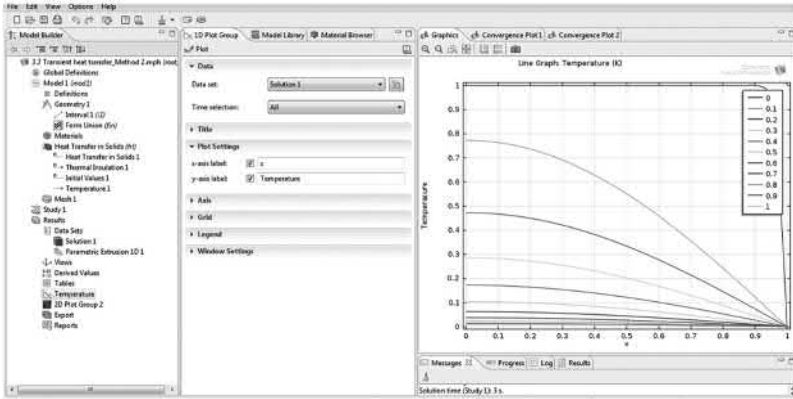

FIGURE 3.19 Solution of heat transfer problem [see Equation (3.22)].
- Now, go to *Study* option in the model pellet tab. Click on the *Compute* (=) button. A graph will appear giving the profile of *Temperature versus x* as shown in Figure 3.19.